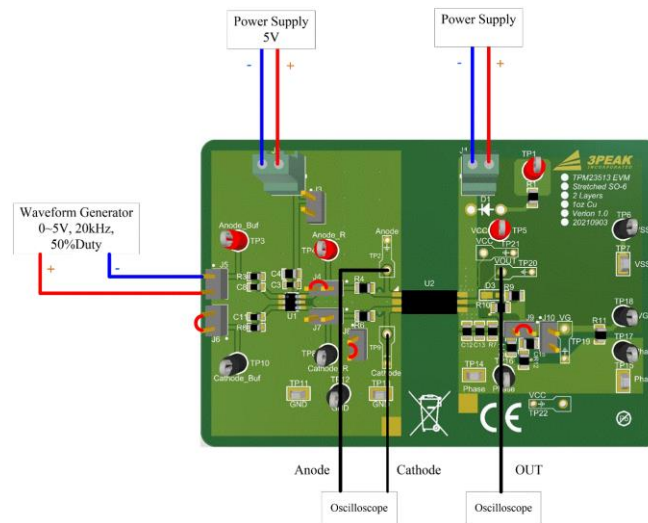

Fig. 3 EVM Test Setup
The recommended connections to evaluate TPM23513B-EVM are shown in Fig.3.
- Set up the EVM as described in Fig.3.